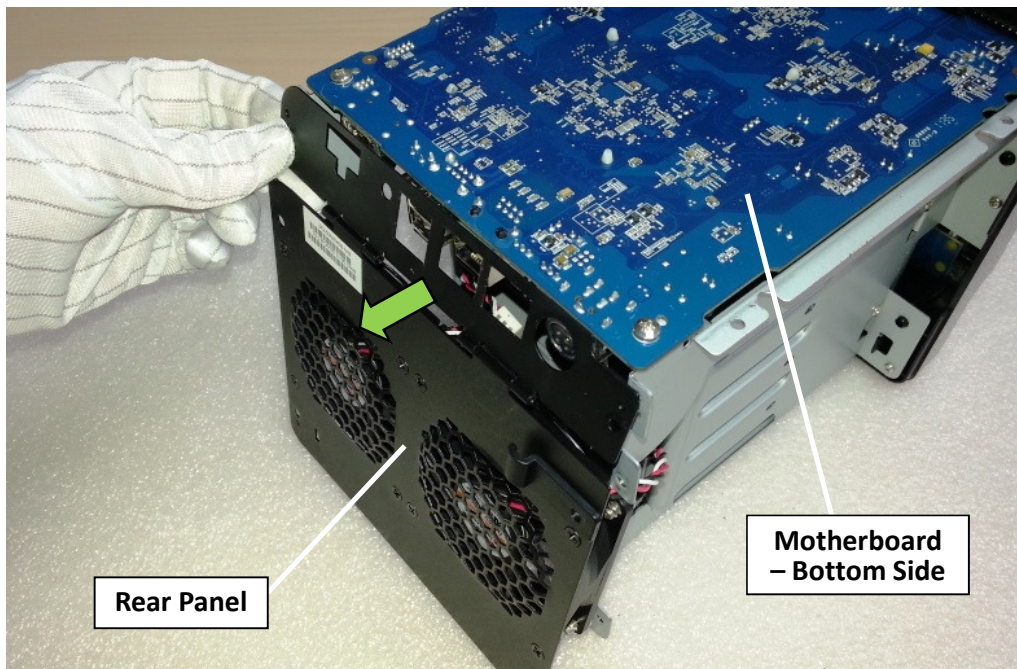

Fig. 54
3.1.9 Remove the rear panel. (Fig. 54)